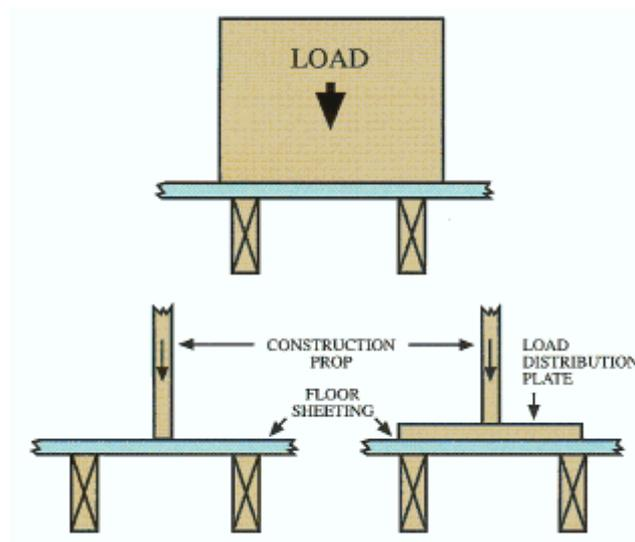

Figure 1
- If the load is a safe or heavy cabinet the base area may be large enough to transfer the load directly to the joist system, rather than through the floor sheeting (as in Figure 1).